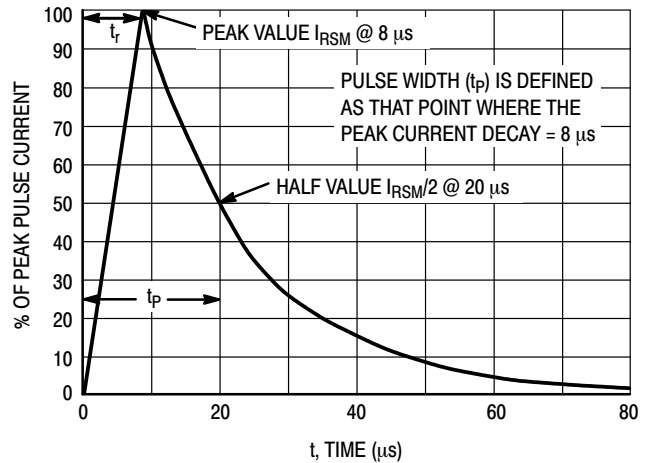
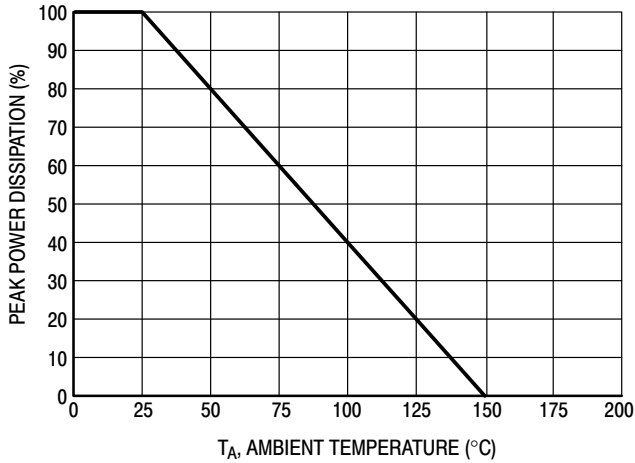

Figure 2. Pulse Waveform $8 \times 20 \mu\text{s}$
Figure 3. Power Derating Curve
1. Non-repetitive current per Figure 2. Derate per Figure 3.